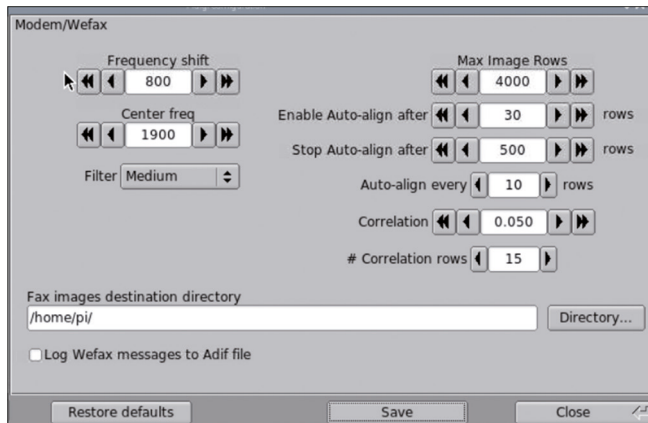

Figure 13.9: WEFAX configuration.
- Leave the other settings as shown in Figure 13.9. Click **Save** and then **Close**